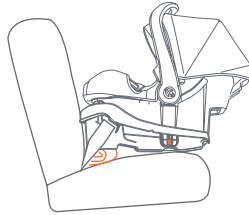
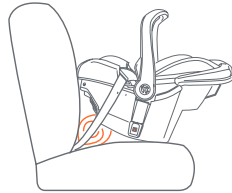

Fig. 55-1
Fig. 55-2
- If the Seat Angle Indicator level line is not parallel with the ground, or the bubble is not centered, using the Elevation Foot, stow the elevation foot under the base, place a rolled towel, folded towel or pool noodle under the front of the base (Fig. 55-1), or at the foot end of carriers (Fig. 55-2), to achieve the correct position.